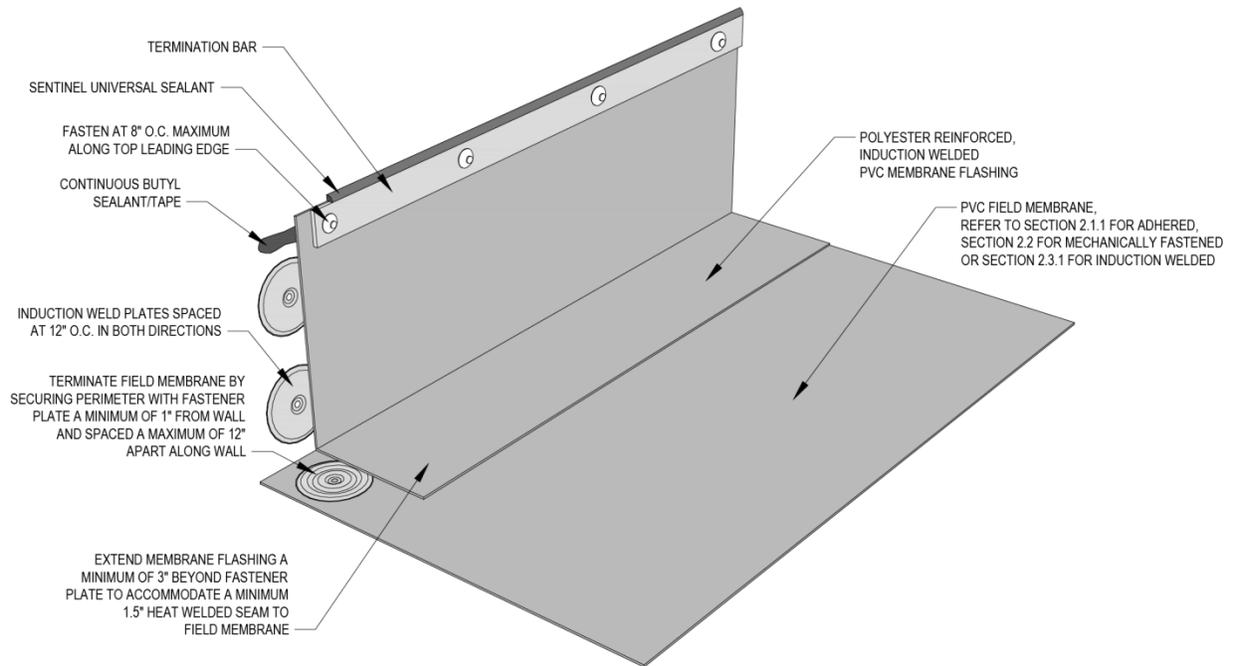

Figure 2.3.2a Induction Welded PVC Flashing Membrane at Wall/Curb With Horizontal Perimeter Fastening
- Install fasteners and induction welding plates to the vertical substrate a maximum of 12 in on-centers in both directions. Refer to Table 2.3.2b and Figures 2.3.2a and 2.3.2b.
- Install butyl water cutoff, fasten and seal the top leading edge to vertical surfaces. Refer to Figures 2.3.2a through 2.3.2b.